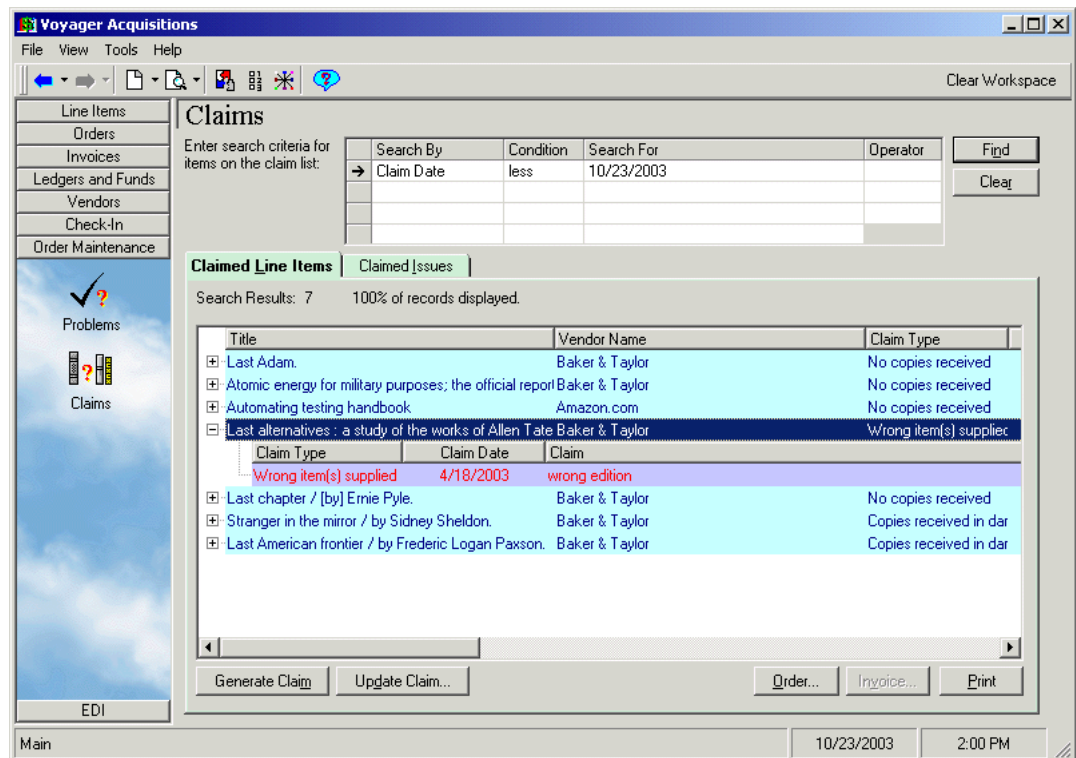

Figure 2-107. Claims workspace search results
8. To process an item, select it and click the wanted action button (see Figure 2-107). See Claims Workspace on page 11-20.